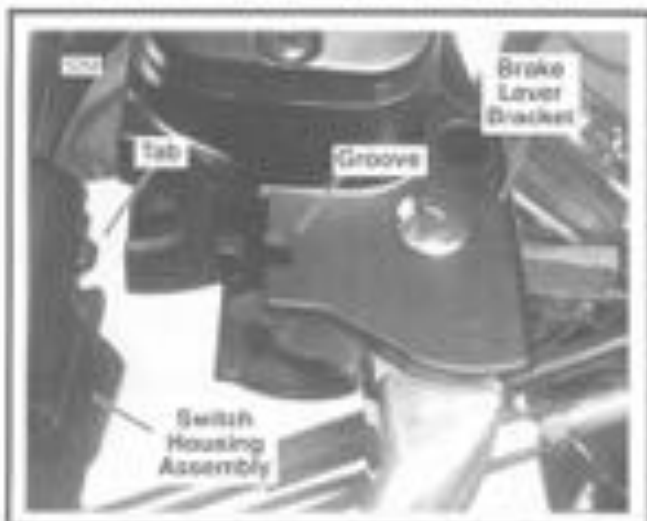

Figure 2-46. Fit Brake Lever/Master Cylinder to Right Handlebar Switch Housing
12. Position the brake lever/master cylinder assembly aboard of the switch housing assembly engaging the tab on the lower switch housing in the groove at the top of the brake lever bracket. See Figure 2-46.